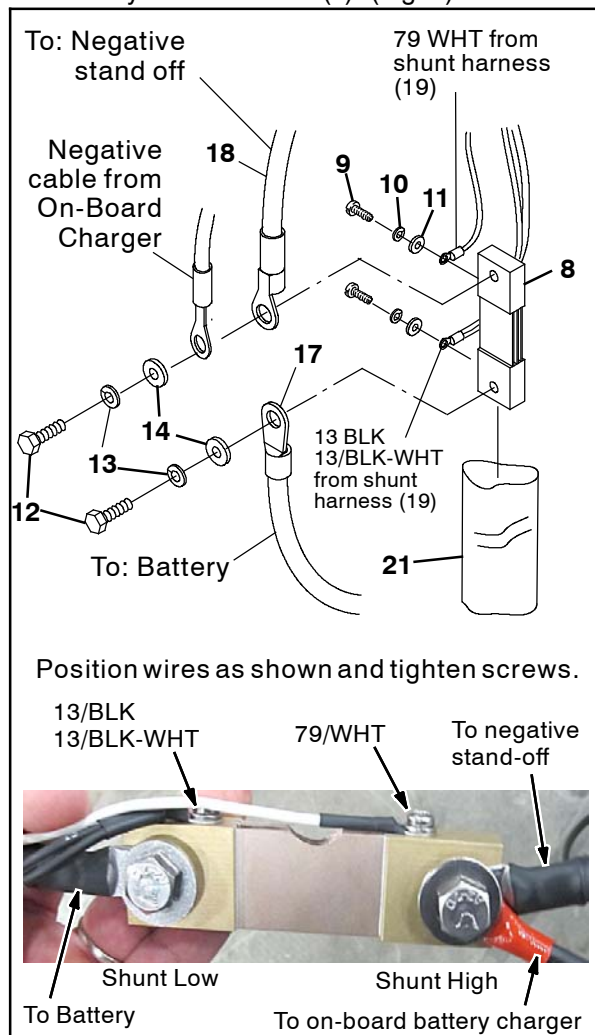

Fig. 8
5. Use one M8 hex screw (12), one flat washer (13), and one lock washer (14) to connect the 40 in. cable (18) to the shunt (8). (Fig. 8)
If machine is equipped with on-board battery charger, connect the charger's negative battery cable to shunt (8). (Fig. 8)
6. Use one M8 hex screw (12), one flat washer (13), and one lock washer (14) to connect the 36 in. cable (17) to the shunt (8). (Fig. 8)
7. Use one M4 pan screw (9), one lock washer (10), and one flat washer (11) to connect the telemetry shunt harness (16) 79/WHT wire to the end of the shunt (8) with the cable assembly (18) black cable. (Fig. 8)
8. Use one M4 pan screw (9), one lock washer (10), and one flat washer (11) to connect the telemetry harness (16) black wire to the telemetry shunt harness (19) 13 / BLK 13 / BLK- WHT wires to the end of the shunt (8) with the cable assembly (17). (Fig. 8)
9. Slide the heat shrink (21) over the various wires and shunt, center the heat shrink onto the shunt, and heat the heat shrink over the shunt and the wire / cable connections to the shunt. (Fig. 8)